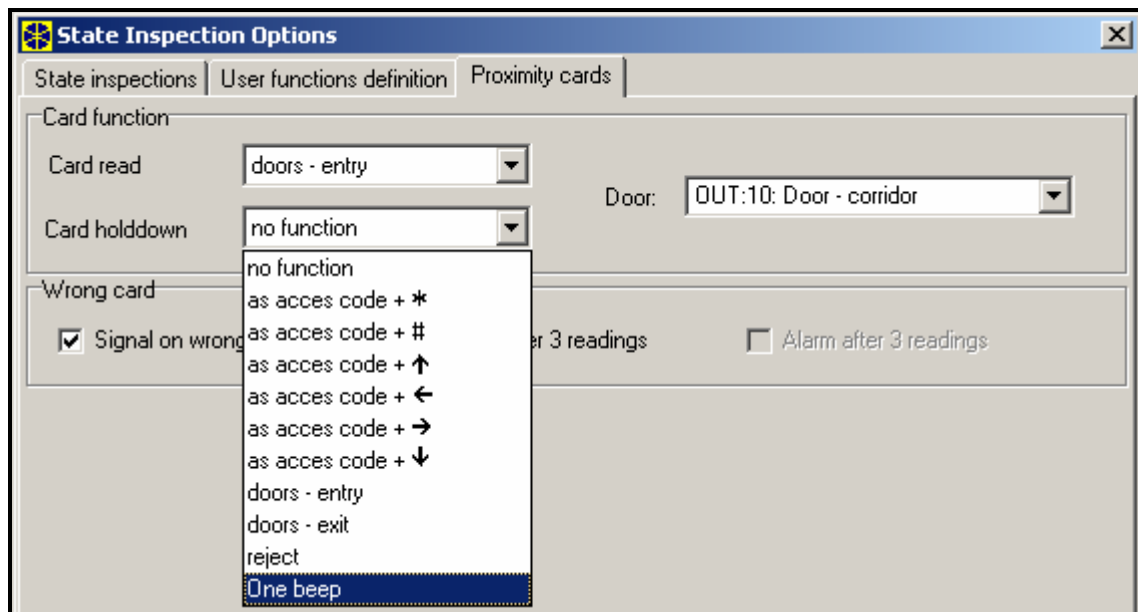

Fig. 15. Handling proximity cards.
- 101. CARD READ – EXPANDER** – the output signals that the card has been read in indicated modules/keypads. It can be used to perform the function of access control and door control from the keypad. To this effect, indicate the keypad in which reading in the card will activate the output, and the partitions from which the users will be able to open the doors. In the keypad settings, you should indicate the control panel output as the door (see Fig. 15). It is necessary to define the door opening function for presenting/holding the card, and select whether this event is to be logged as an entry or an exit.